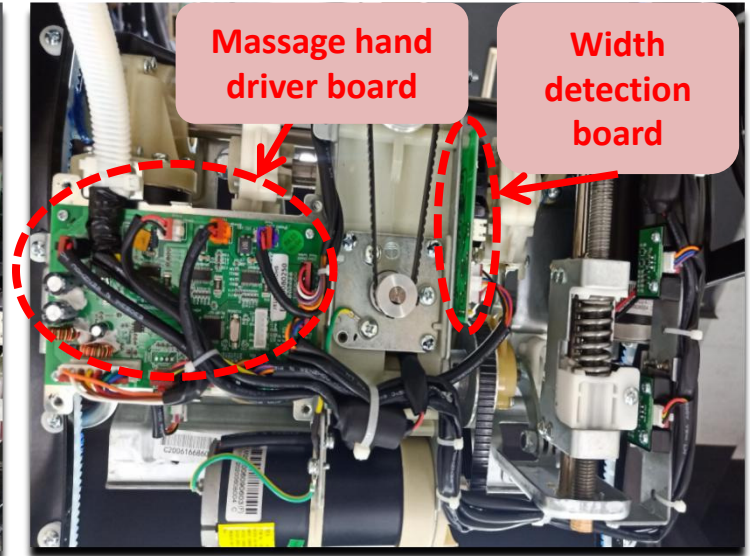

Figure 3
- C、 Check whether the width detection board is damaged (FIG. 3);
- D、 Substitution method to determine whether the drive board is damaged (Figure 3); Fault code :F6/F7/F8